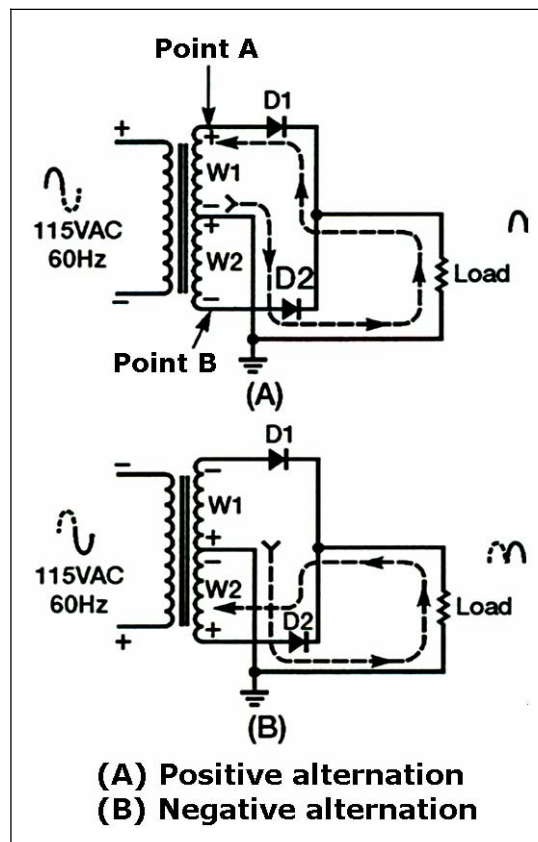

Figure 4-5. Simple Full-wave Rectifier
4-13. A full-wave rectifier is a device that has two or more diodes arranged so that load current flows in the same direction during each half cycle of the AC supply. Figure 4-5 shows a diagram of a simple full-wave rectifier. The transformer supplies the source voltage for two diode rectifiers (D1 and D2). This power transformer has a center-tapped,
4-14. During one alternation of the secondary voltage, the polarities are as shown in Figure 4-5, view (A). The source for D2 is the voltage induced into the lower half of the secondary winding of the transformer (W2). At the specific instant of time shown in the figure, the anode voltage on D2 is negative and therefore cannot conduct. Throughout the period of time during which the anode of D2 is negative, the anode of D1 is positive. Since the anode of D1 is positive, it conducts, causing current to flow through the load resistor in the direction shown by the arrow.
4-15. Figure 4-5, view (B) shows the next half cycle of secondary voltage. Now the polarities across W1 and W2 are reversed. During this alternation, the anode of D1 is driven negative and D1 cannot conduct. For the period of time that the anode of D1 is negative, the anode of D2 is positive, permitting D2 to conduct. Notice that the anode current of D2 passes through the load resistor in the same direction, as did the current of D1. In this circuit arrangement, a pulse of load current flows during each alternation of the input cycle. Since both alternations of the input voltage cycle are used, the circuit is called a FULL-WAVE RECTIFIER.